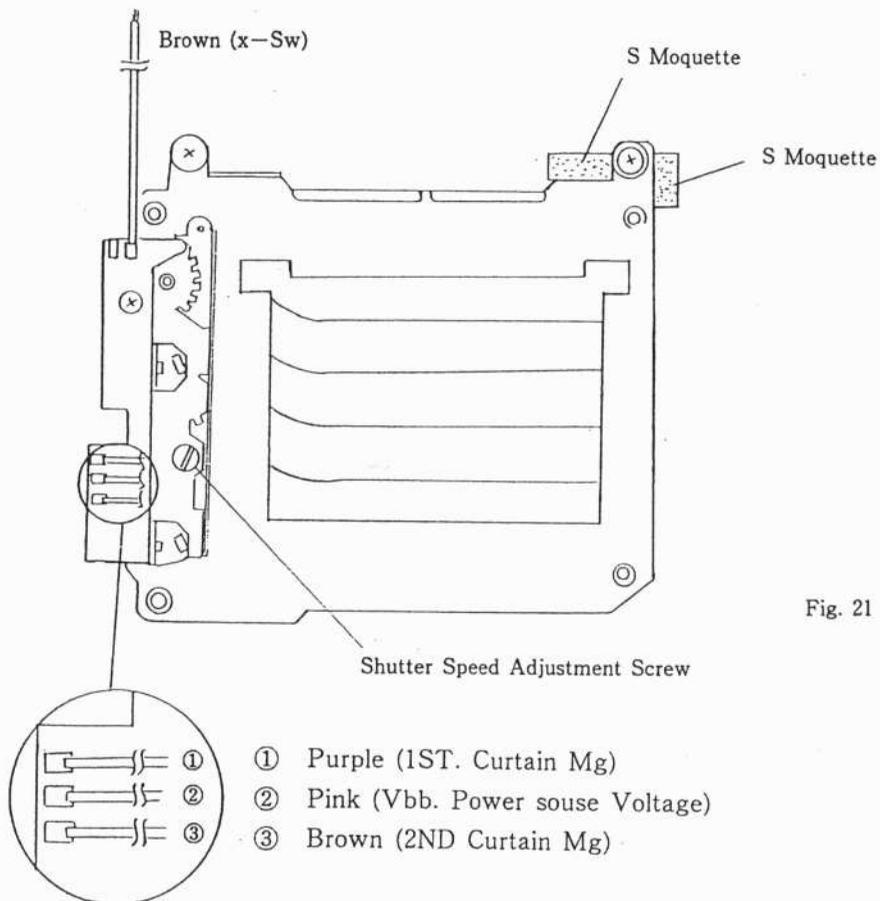

Fig. 21
- ※ If the Shutter is replaced, make sure that the S Moquette is attached to the body as shown in Fig. 21.